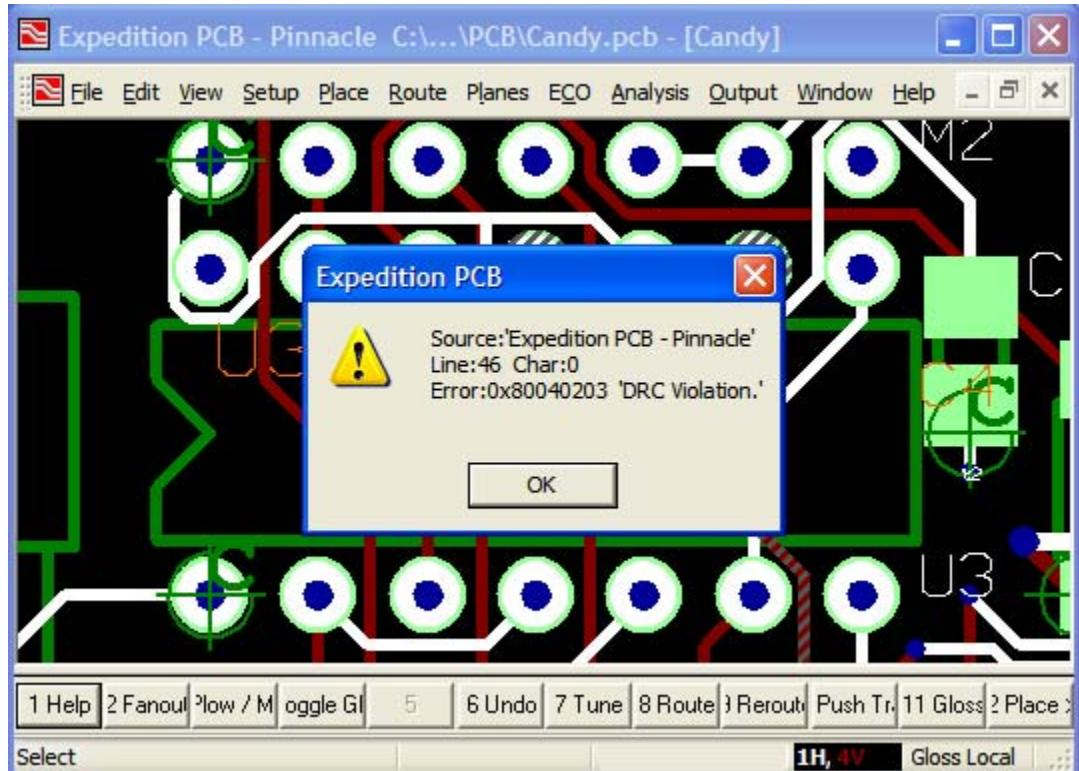

Figure 12-16. The *PutTraceNoTransac.vbs* script results in an error.
- 5) Drag the *PutTraceNoTransac.vbs* script from your C:\Temp folder, drop it on top of the design, and observe the resulting error message as illustrated in Figure 12-16.